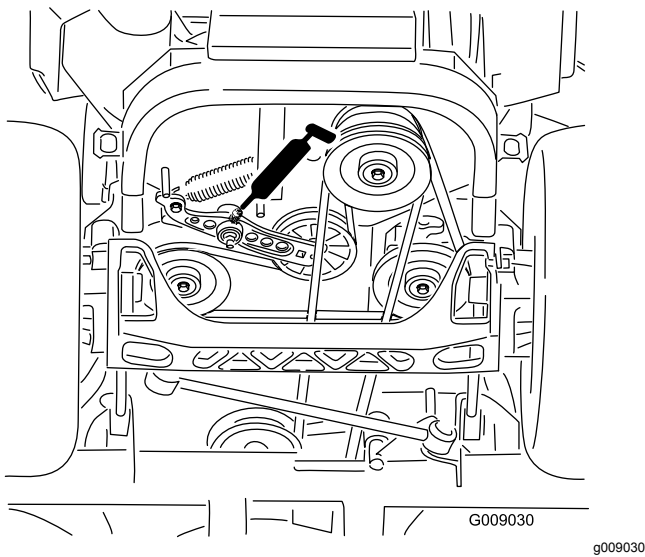

Figure 43
5. Grease the drive-belt-idler arm (Figure 43).